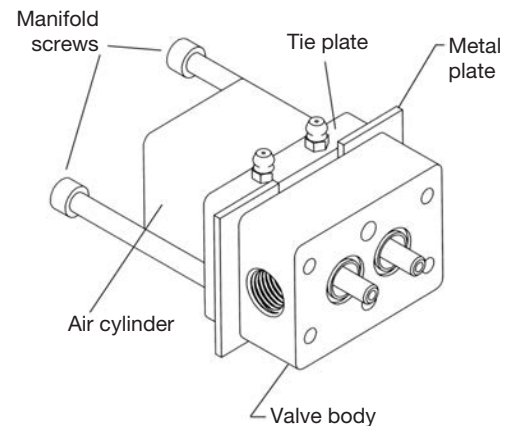

Figure 1
1. Remove the manifold and seat plate (8). Pry bar slots are provided.
2. Remove the air cylinder bolts (2) and wiggle the air cylinder apart. If the assembly is frozen, use the pry bar slots on the valve body (7) to separate the valve body (7) from the tie plate (5). Insert flat pieces of metal between the valve body and the tie plate as per Figure 1. Thread the manifold screws (36) into the back of the tie plate and push the valve body apart. Apply uniform pressure to prevent the body from cocking and bending the air cylinder shafts (75).